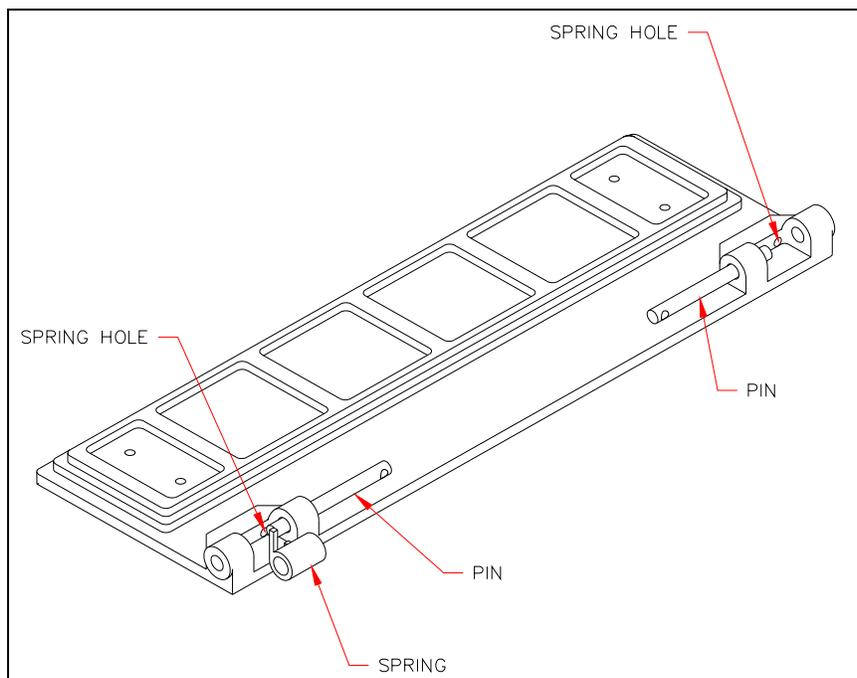

Figure 11-8 Reinstalling the Door
- 3 To reassemble the door, partially insert 2 M3 x 32mm spring pins into the door. Then insert the 2 torsion springs into the hinge recess with its L-shaped leg in the spring hole and engage the pins to hold the springs (Figure 11-8).